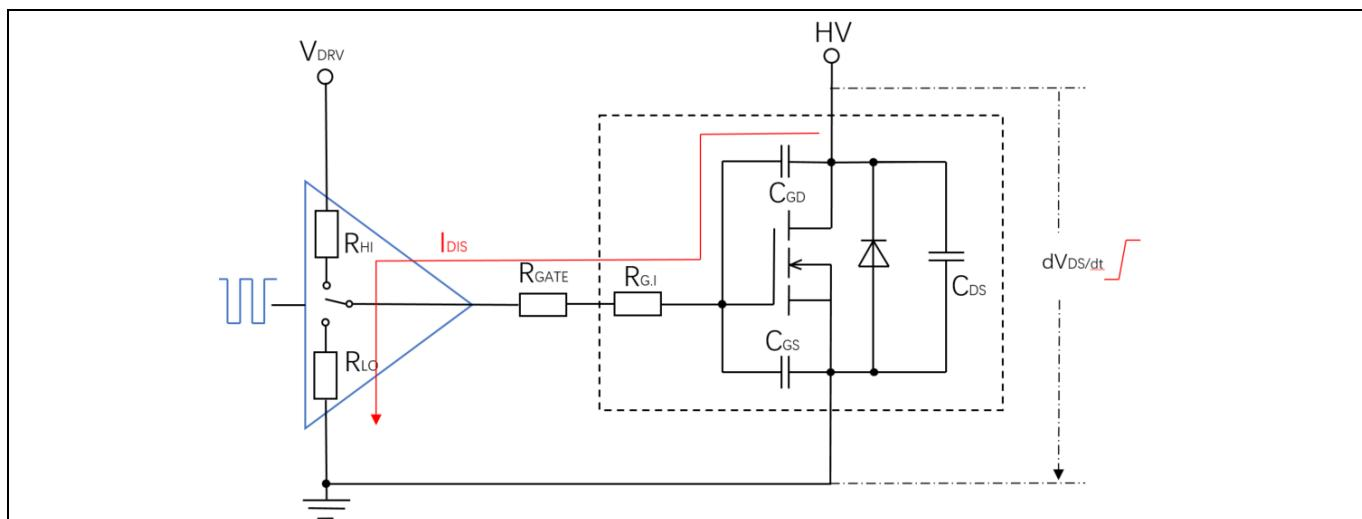

Figure 4 Parasitic turn on
As sketched in Figure 4, high dV_{DS}/dt across the MOSFET will generate a displacement current I_{DIS} through the Miller capacitor C_{GD} , and this displacement current will generate a voltage drop across the gate resistor raising up the gate voltage. This can be calculated according to equations (1) and (2) below.